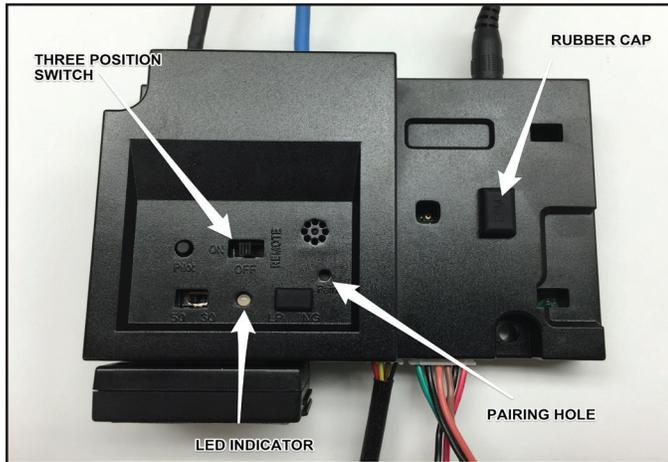

Figure 4.7. IFT-ECM
5. Locate the IntelliFire™ Touch electronic control module (IFT-ECM) in the control cavity of the appliance and move the three-position switch to the OFF position. See Figure 4.7.
6. Remove protective rubber cap from connector on the top of the IFT-ECM. See Figure 4.7.